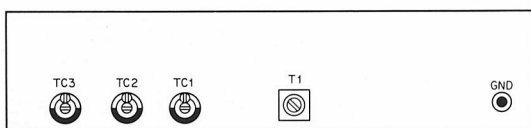
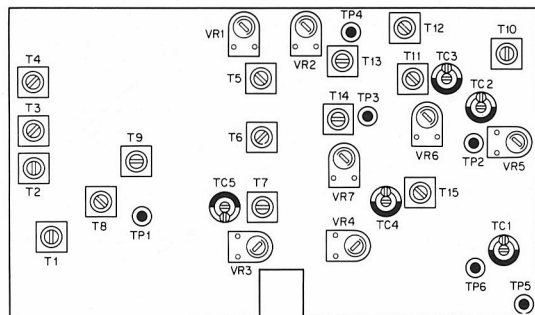
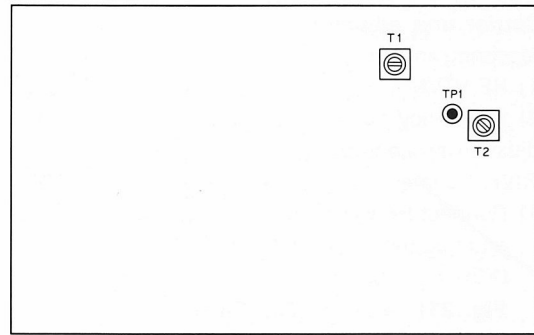

Fig. 21 CAR unit
Fig. 24 IF unit
Fig. 25 RF unit
- 1) Connect RF VTVM to TP5 in IF unit (X48-1150-00) and adjust oscillation coil T1 in CAR-1 unit (X50-1310-00) until the meter reads 50mV (refer to **Fig. 21**). (refer to **Fig. 24** IF unit)
- 2) Adjust T1 to T7 in IF unit (X48-1150-00) and T2 in RF unit (X44-1150-00) until S meter reads maximum value (refer to Fig. 24 and Fig. 25).
- 2) Turn the RF GAIN knob fully counterclockwise and adjust VR3 and TC5 in IF unit (X48-1150-00) alternately until the output becomes minimum (refer to **Fig. 24**).
- 1) After receiving marker signal and turning ON NB switch, adjust T8 and T9 until the terminal voltage at TP1 on IF unit (X48-1150-00) becomes minimum (refer to **Fig. 24**).
- 1) After adjusting each section until sensitivity becomes maximum, adjust VR1 in IF unit (X48-1150-00) under no signal condition, thus making zero point adjustment of S meter (refer to **Fig. 24**).